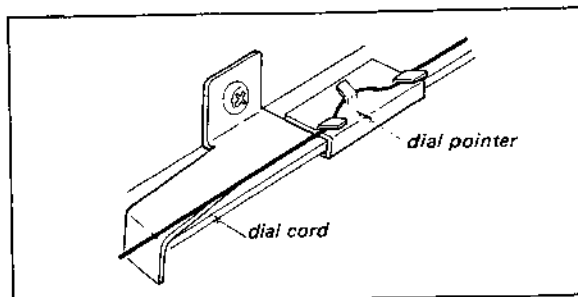

Fig. 2-10. Dial pointer installation
8. Put the dial pointer on the cord as shown in Fig. 2-10, and then tune the set to the local fm station. Move the dial pointer to the position where the dial indication coincide with the local station's carrier frequency. Apply a drop of contact cement to it.